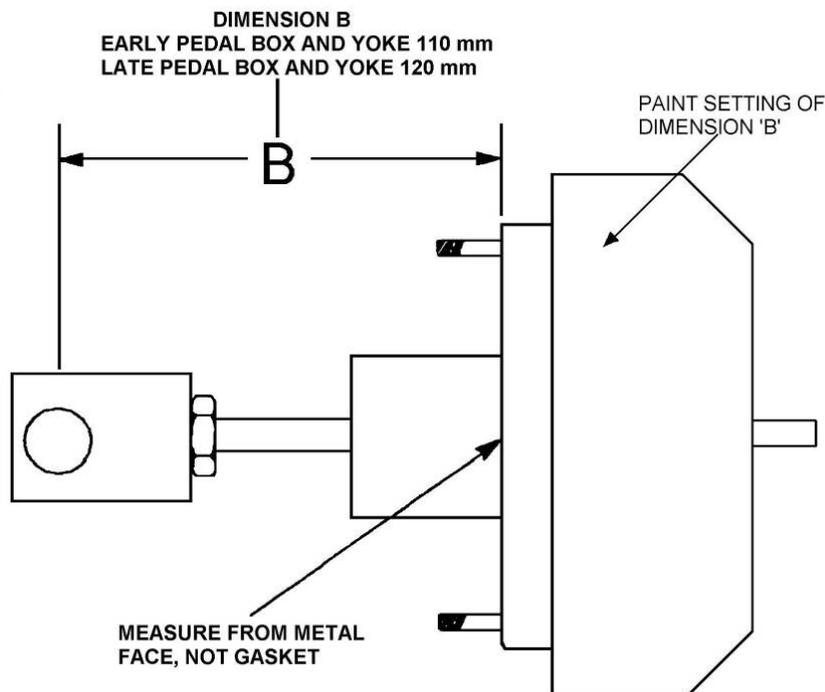

Figure 288 Clevis Adjustment
- r. Install a new nut and the clevis on the rod and plunger. Adjust the nut and clevis to obtain the required distance from the centre of the clevis pin hole to the vacuum chamber rear cover (Figure 288), depending on the configuration (see Note).